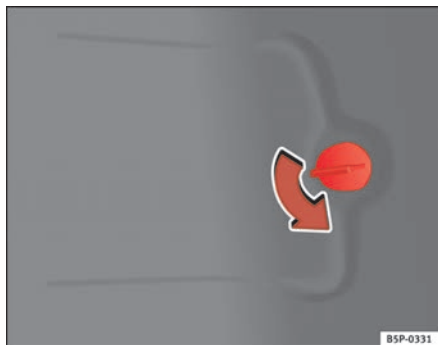

Fig. 187 Lights on vehicle body
- Remove the cover of the luggage compartment lateral panel ⇒ fig. 187.